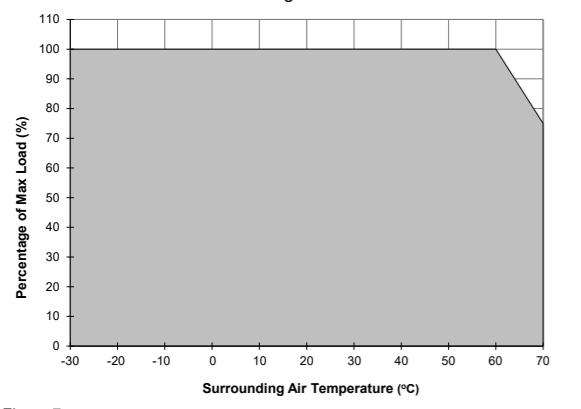

Figure 7
Derating (Leistungsherabsetzung)	(Leistungsherabsetzung gemäß Abb. 7) ≥ 60 °C (2,5 % / °C)
Betriebstemperaturbereich (Umgebungstemperatur)	-30 °C bis +70 °C (Leistungsherabsetzung gemäß Abb. 7)
4.4. Thermal behavior (Fig. 7)
If the output capacity is beyond what is recommended in Fig. 7, the device will run into thermal protection by switching off i.e. device will go in bouncing mode and will recover when ambient temperature is lowered or load is reduced as far as necessary to keep device in working condition.